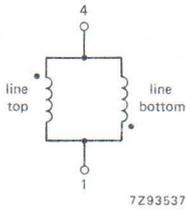

Fig. 2a Line coils.
**Line deflection coils, parallel connected (Fig. 2a), terminals 1 and 4**